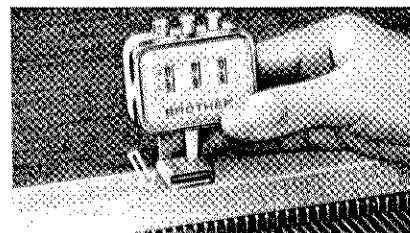

Fig. 16
- a. Set the row counter into anyone of the 3 brackets on the back of the needle bed. (See Fig. 16)